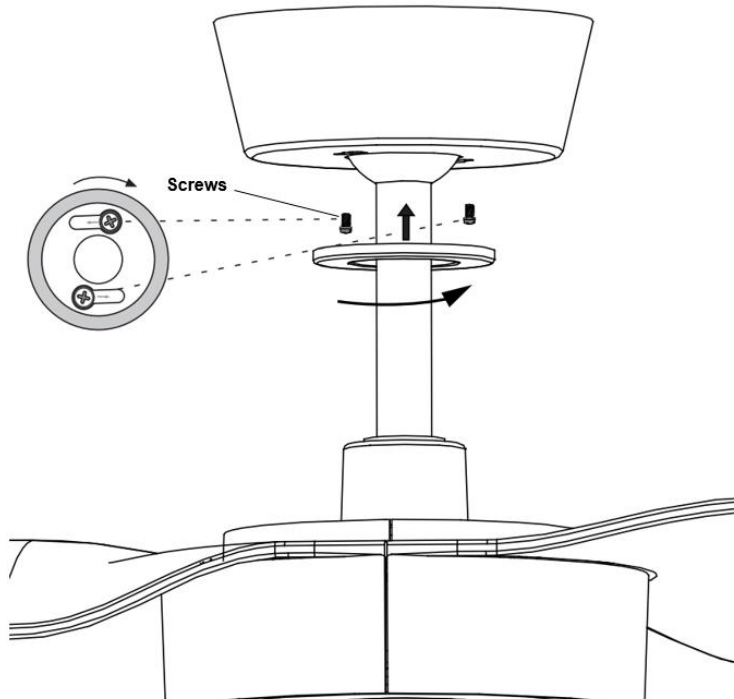

Fig. 10
**INSTALLATION OF THE CANOPY (Fig. 10)**